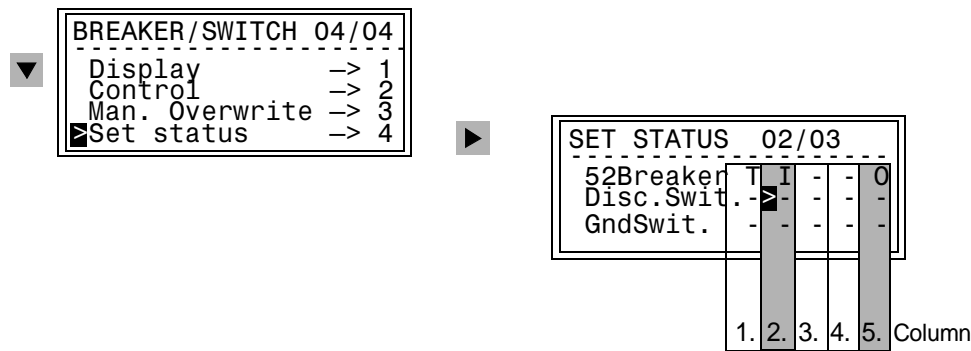

Figure 7-50 Set Status at the Front Panel
With a device ready for operation, first press the **MENU** key. The **MAIN MENU** appears. Using the **▼** key, select the menu item **Control** and go to editing the control functions with the **►** key. The selection **CONTROL** appears. Enter the **BREAKER/SWITCH** menu by pressing the **►** key. Select the item **Set Status** with the **▼** key and switch to the next option using the **►** key. **SET STATUS** appears, as shown in Figure 7-50.
The example in Figure 7-50 shows the position for the circuit breaker (52) was tagged (T) after the input ignore (I) was set, which means the message input was de-coupled from the system. The output block is active (O), so the command output is also de-coupled from the system. For the disconnect switch and the ground switch, no limitations are set.